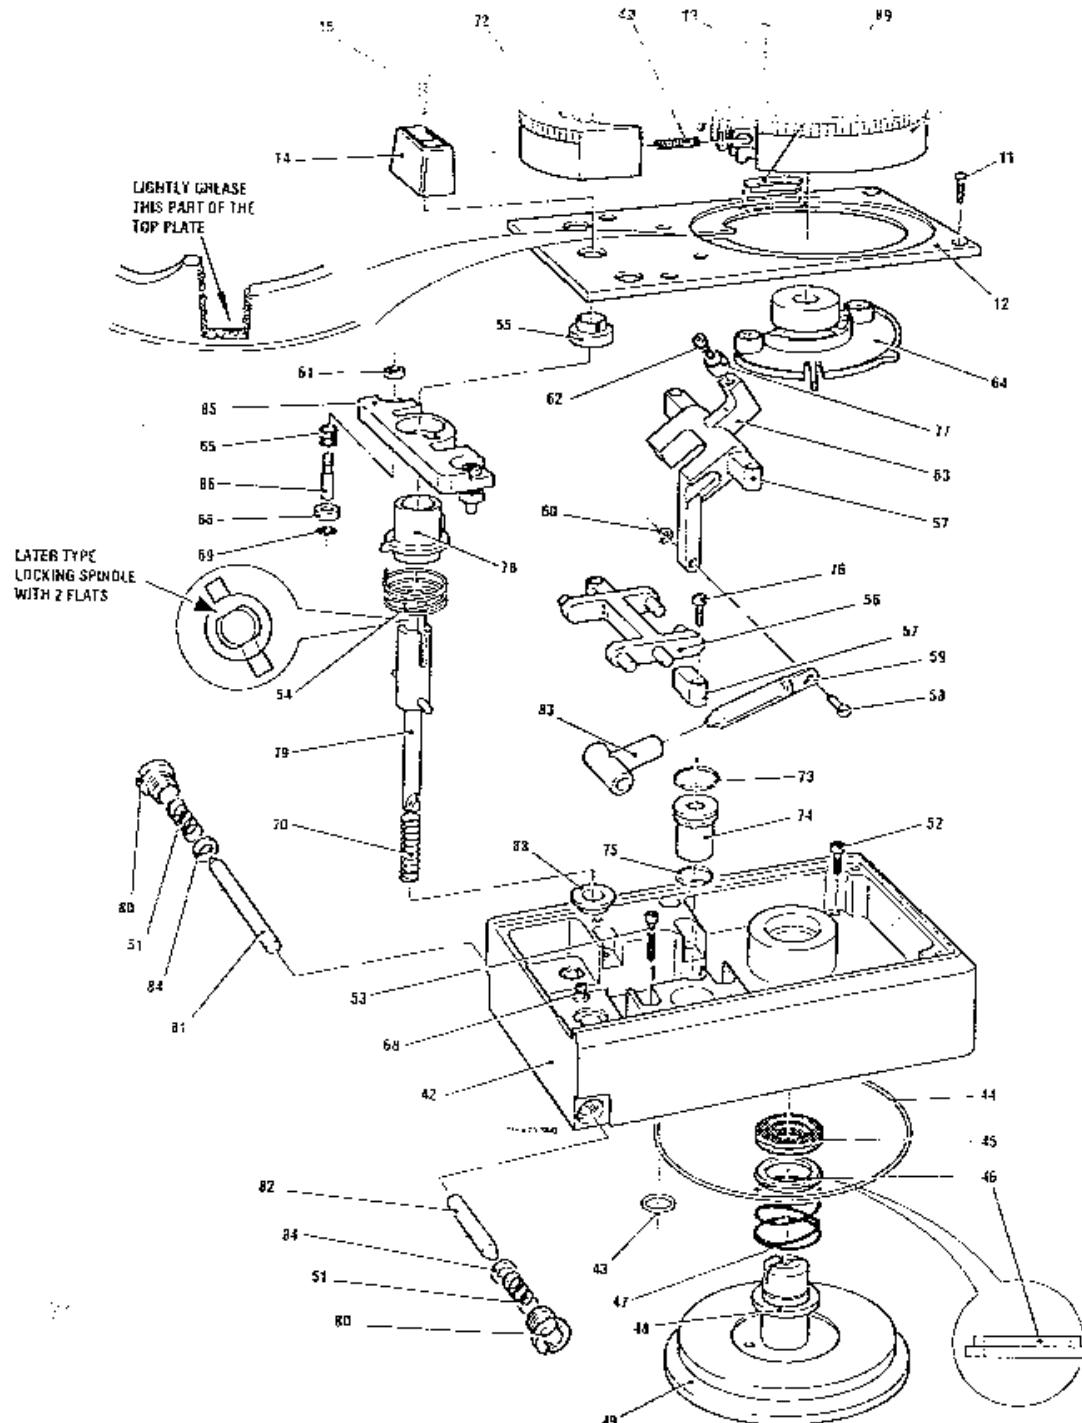

Fig. 3.14 Interlock Block Assembly
### 3.7.2 Interlock Block Assembly (Fig. 3.14 and 3.15)
21. Fit the stop moulding (89) to a new style top cover plate (12). Grease the stop face of the cover plate as illustrated in fig.3.14. Fit the cover plate to the interlock block, ensuring that the key in the cover plate fits into the slot in the locking lever spindle bush (55).
23. Lightly grease two new springs (40) and ate them onto the dial release (72). Fit the springs into the dial (71) and then fit the dial release over the springs and into the dial. Remove any grease from the outer surface of the dial.
25. Fit the dial securing screws (13) through the dial and into the drive disc. It may be necessary to manoeuvre the drive disc in order to engage the screws. Torque tighten the screws to 1.0 Nm using tool Part No. 2802-8052-000.
26. Fit the locking lever (14) onto the locking spindle (79) ensuring that the one or two flats locate fully onto the one or two flats on the spindle. Secure it with screw (15). Torque tighten to 1 Nm and check that there is no vertical movement of the locking lever on the spindle.
28. Turn the dial to the OFF position, check that the dial release returns to the unlocked condition and that the extension rods (81 & 82) retract. Release the locking lever (14) and check that it springs up to the OFF position